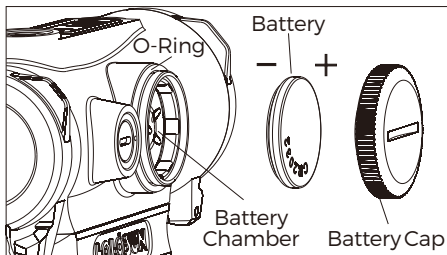

Fig 4-1
- 1) Battery installation: (Fig 4-1)